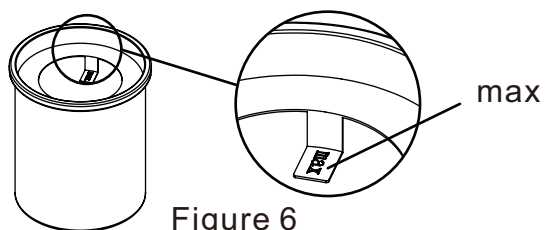

Figure 6
- Do not fill the burner pot to a level above the “max” indicator (see Figure 6).